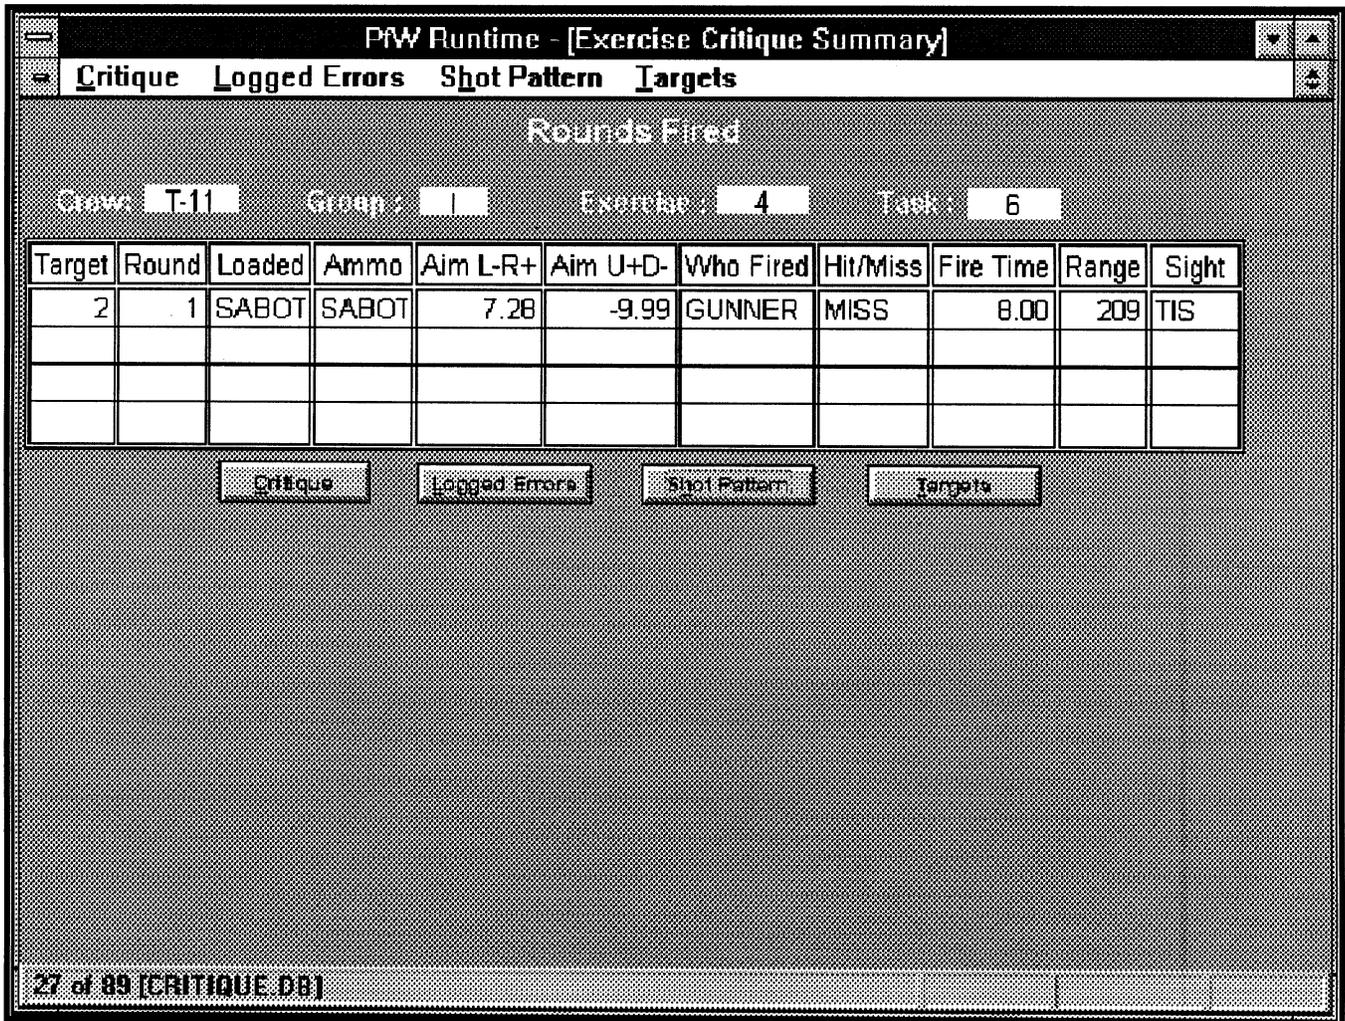

Figure 2-117. Rounds Fired Screen
- a. At the Exercise Critique Summary Screen, click on the Rounds button or select Rounds from the pull-down Critique Options menu. The Rounds Fired Screen, Figure 2-117, displays. This screen also displays as a result of selecting Rounds at the